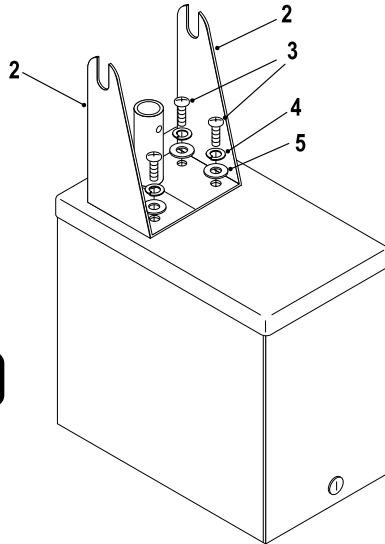

Figure 2
2. Attach POD Brackets (#2) to top of POD using four screws (#3), lockwashers (#4) and washers (#5). Tighten screws tight. See Figure 2.